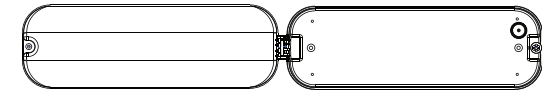

Fig 2
- Open fitting (see Fig 2) to gain access to the connections and mounting guides